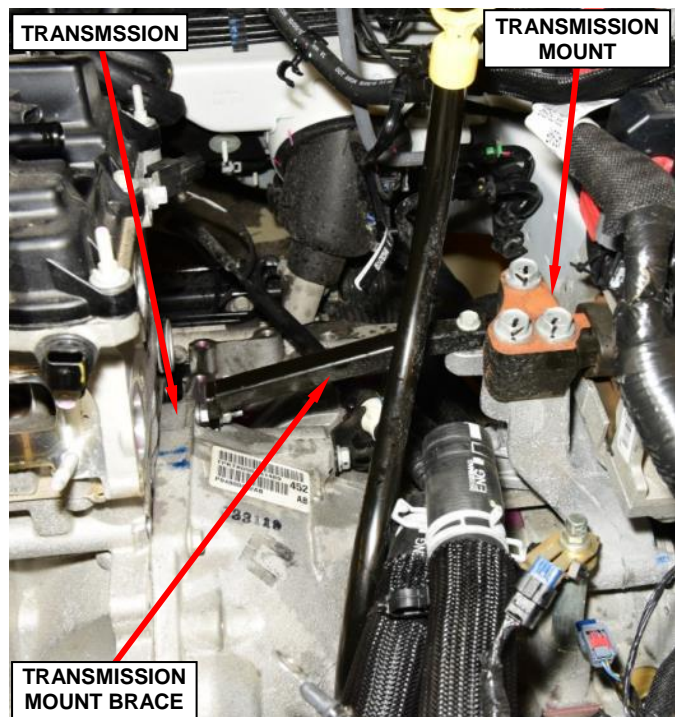

Figure 101 – Transmission Mount Brace
96. Remove and save the nut and bolt securing the transmission mount brace (Figure 101).
97. Remove and save the transmission mount brace (Figure 101).